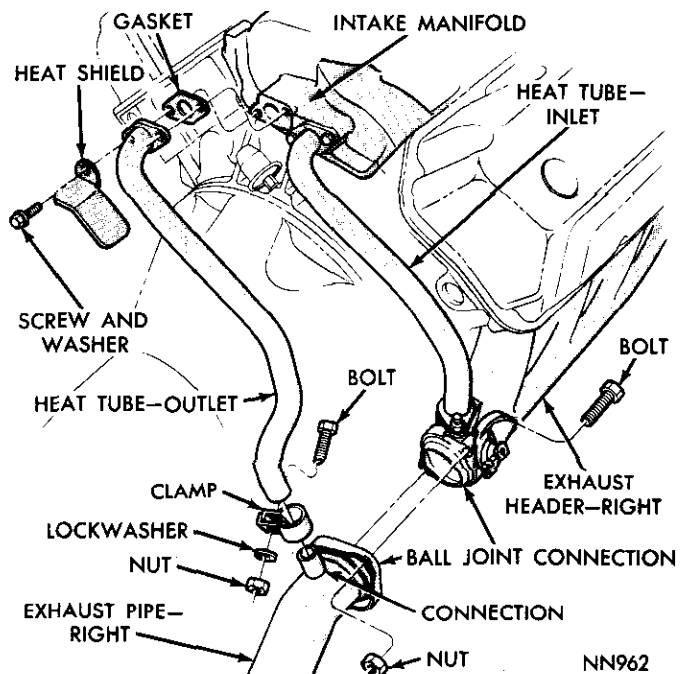

Fig. 11—Intake Manifold Heat Tube Arrangement (426 Hemi Engine)
- (1) To remove inlet tube, remove two stud nuts and washers from right hand exhaust header (Fig. 11).
- (2) Remove screws attaching upper end of inlet tube to rear face of intake manifold.
- (3) Remove tube and gaskets and discard gaskets.
- (1) To remove outlet tube, remove nut, washer and bolt from tube clamp at exhaust pipe (Fig. 11). Remove clamp from tube.
- (2) Remove two screws attaching heat shield and outlet tube to rear face of intake manifold and remove tube.